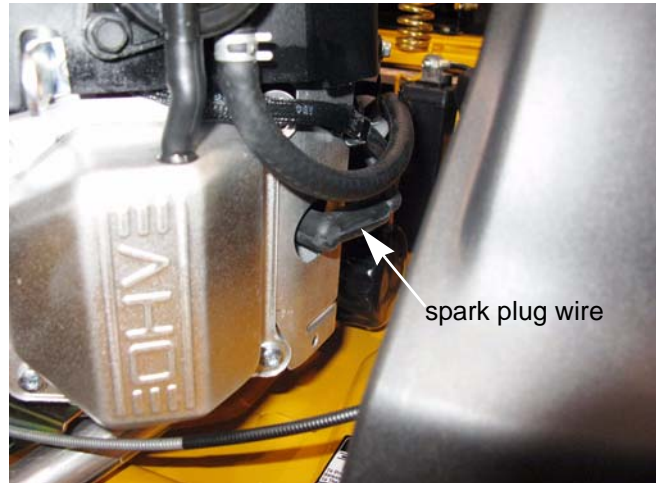

Figure 8.1
1. Disconnect the spark plug wires on each side. See Figure 8.1.